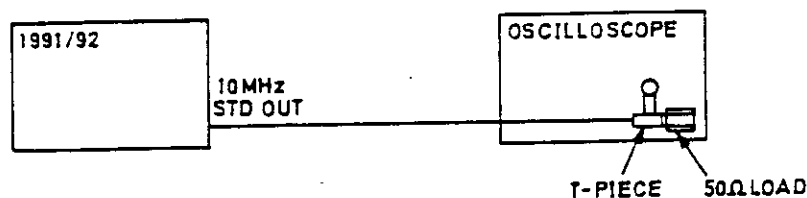

Figure 6.32 - Connections for 10 MHz Standard Output Level PVP
- a. Connect the test equipment as shown in Figure 6.32